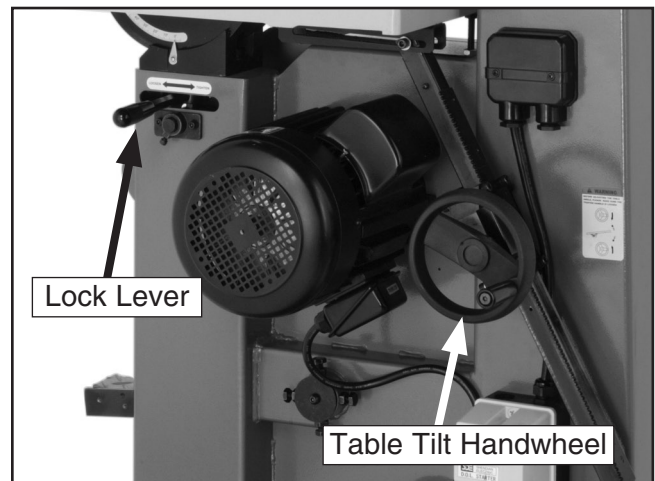

Figure 42. Table tilt controls.
2. Loosen the table tilt lock lever shown in **Figure 42**.
3. To tilt the table to the right, turn the table tilt handwheel clockwise (**Figure 42**).